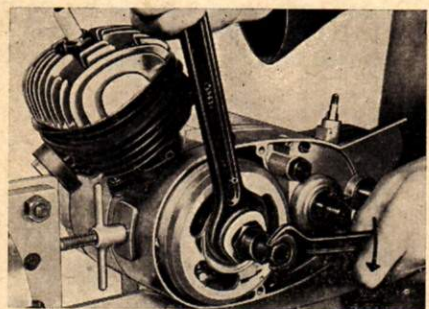

Fig. 22 Removing fly wheel disc VI / 57 / 632
3. Screw in extractor, part No. 0301-71700-00.3, use a 27 mm spanner on the extractor, turn set screw (illustrated in fig. 22) and remove flywheel disc and spring ring B 10.